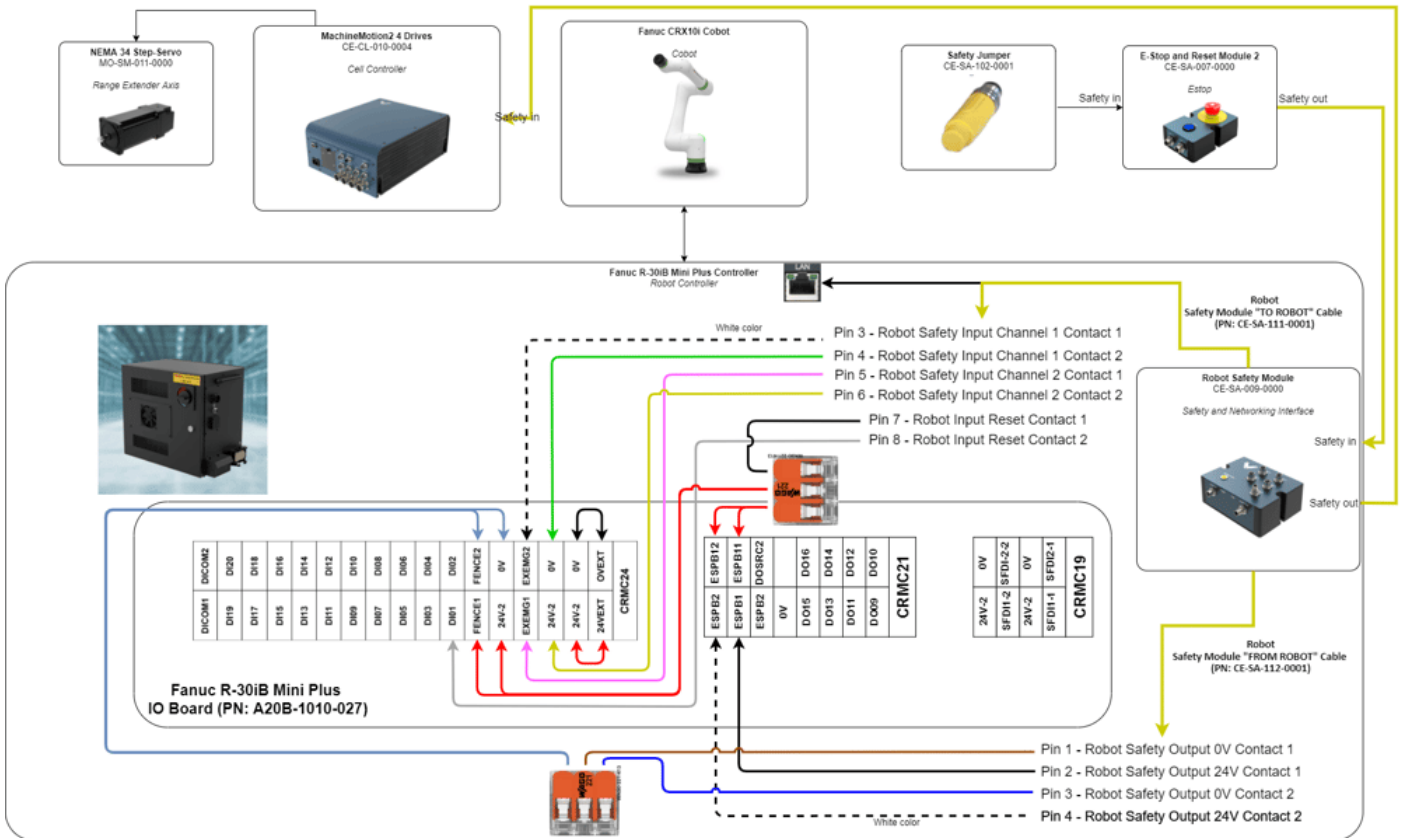

Figure 3: Safety connections
2. The FANUC controller needs to be connected via Ethernet to the Vention MachineMotion. It is recommended to use the Vention Robot Safety module. See Figure 3.